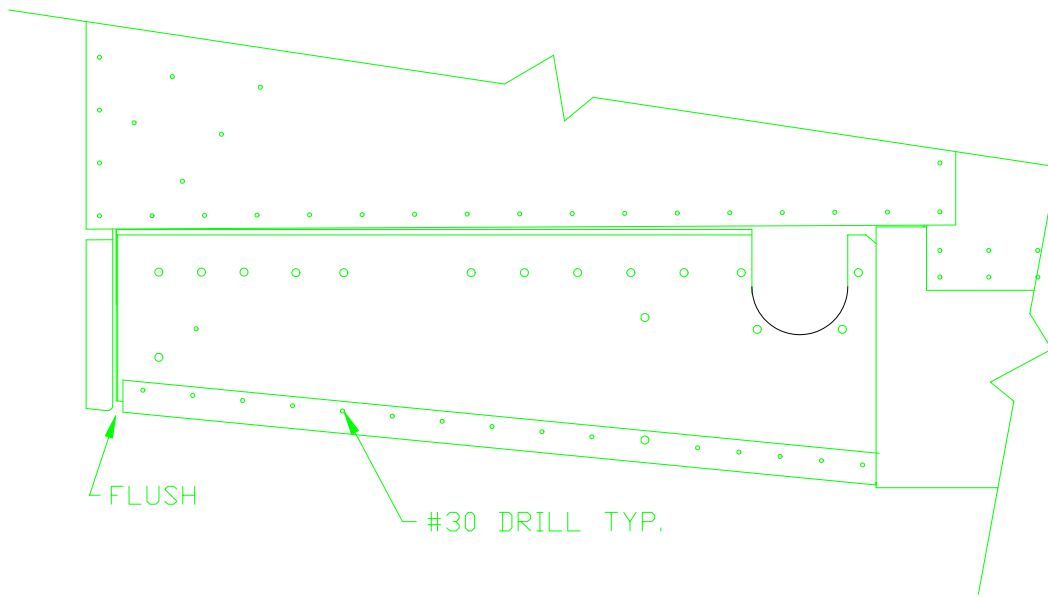

FIGURE 22
- 36) Remove the cleco at the front of the bottom angles on one of the outer FUS-325 shear webs. Move the front of one angle up or down so it is flush with the bottom of the firewall flange. Back drill the angle. Position the other angle and back drill. Rivet in place with 1/8 avex rivets. Repeat for other side. Figure 22.